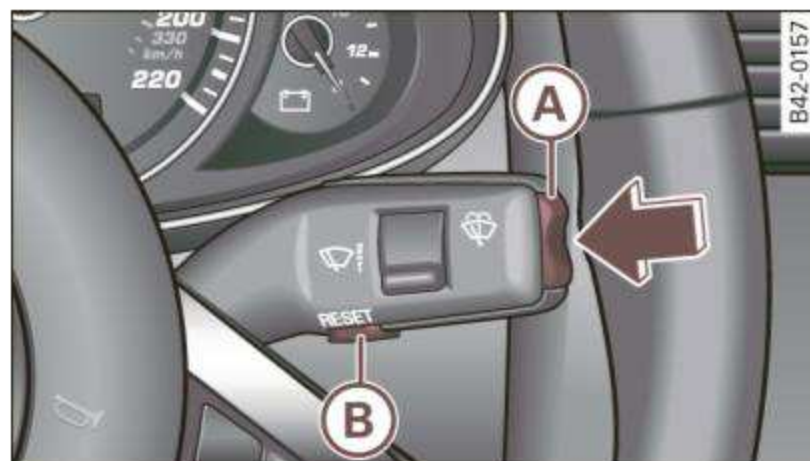

Fig. 14 Wiper lever: Controls for the menu display
Reset button (B) and **rocker switch** (A) ⇒ fig. 14 functions: